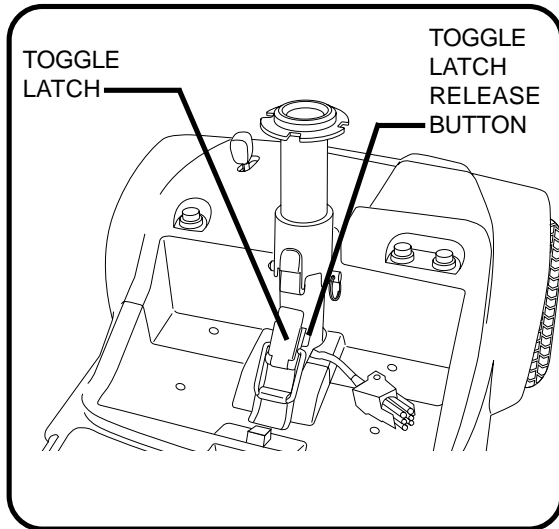

Figure 15. Toggle Latch (Latched)
1. Push in the toggle latch release button while pulling back on the toggle latch. **See figure 15.**
4. Secure the toggle latch. See figure 15.